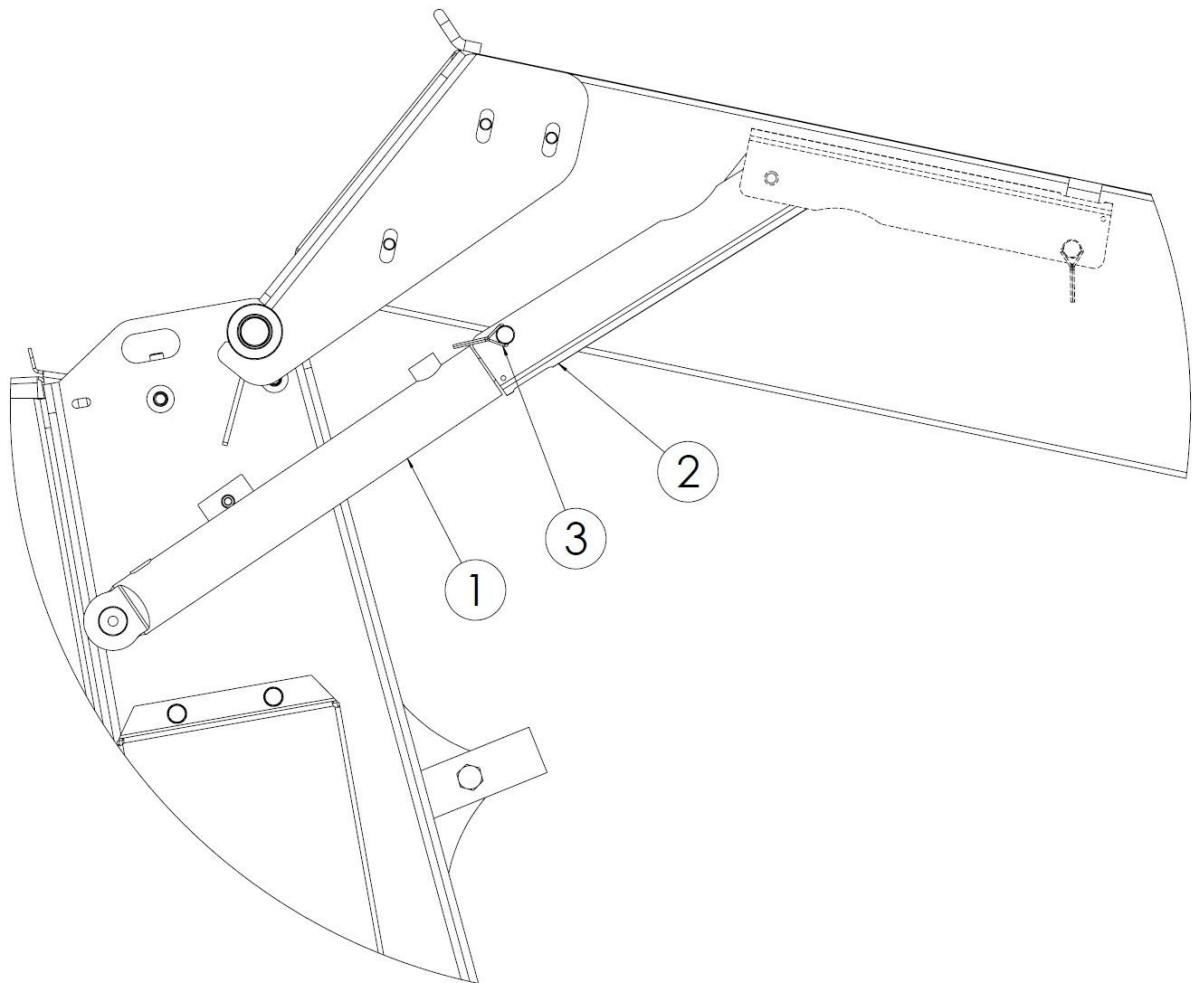

Figure 48. Locks for securing the rams
Secure the lifted rear spreading adapter tailgate in its upper position, as shown in Figure 48. On both sides of the spreader, use clamps (2) fixed to the upper pins of the hydraulic rams (1) to secure them. Move the clamps (2) fully upwards so that they embrace the stretched ram rods. Lock them with locking pins (3) against unauthorised cover closing. Unlock the clamps of the cover after completing the planned activities. Please use a certified ladder when carrying out the above tasks. If necessary, ask another person to help you.